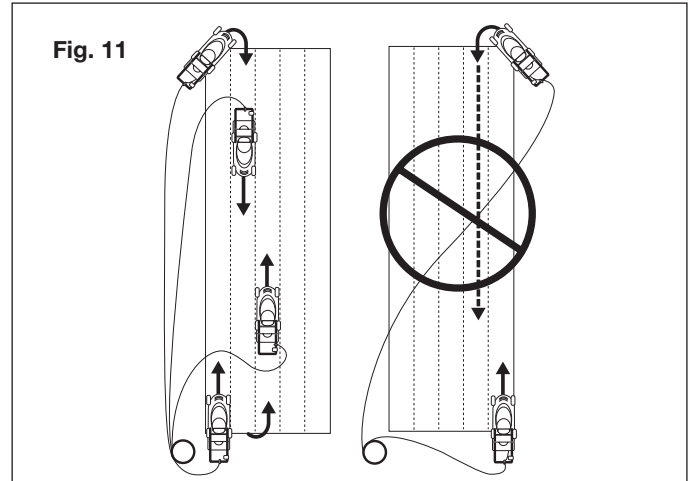

Fig. 11
- Do not mow in a circle. Travel back and forth across the lawn following the path outlined below (Fig. 11).